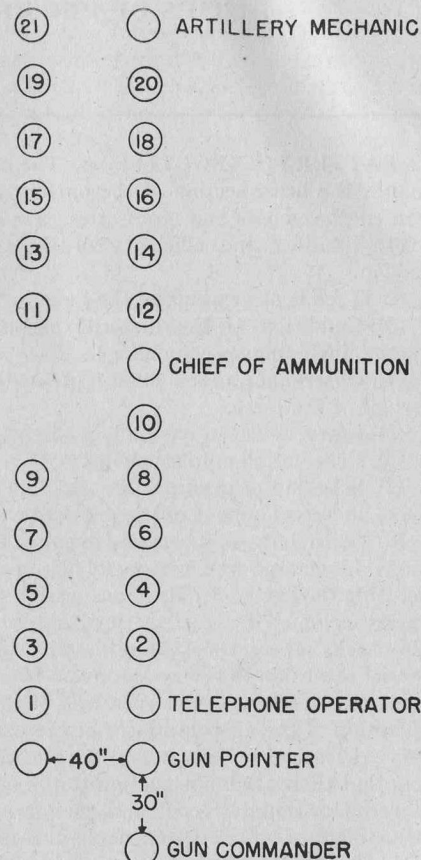

Figure 1. Formation of gun section.
6. FORMATION. Each gun section assembles in two ranks at close interval as shown in figure 1. Unnumbered cannoneers form on the right of their respective squads. After forming the gun section, the gun commander takes post in the front rank 30 inches to the right of the gun pointer.